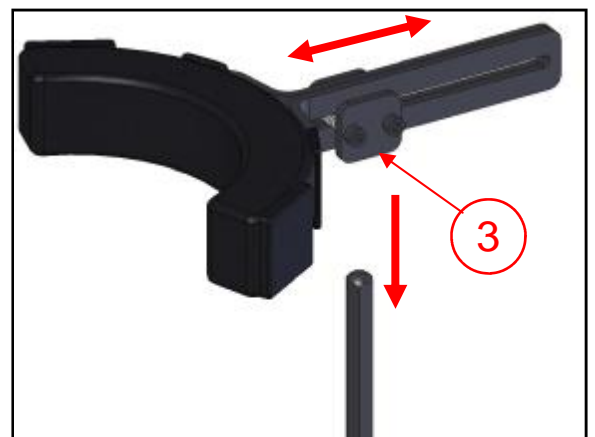

Figure 26
1. To mount the neckrest, first remove the headrest pad. Do this by loosening the two Allen screws securing it to the vertical hex bar coming out of the top of the column. (1)
2. Then, slip the Neckrest onto the top of the bar as shown in Figure 26.